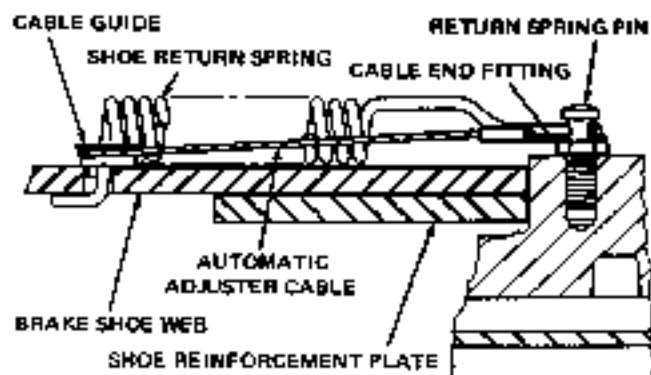

FIGURE J-15 - Adjuster Cable
NOTE: The secondary shoe is toward the rear of the vehicle. The shoe reinforcement plate, Figure J-15, is toward the backing plate.
6. Insert the cable guide, Figure J-15, into the hole in the web of the secondary shoe. Coat cable groove on guide with brake lubricant.
8. Insert short hook of shoe return spring in hole in cable guide and secondary shoe web as shown in Figure J-15. Hold end of spring down and hook opposite end of spring over return spring pin. The return spring will hold the cable guide in place. Make sure cable guide is down flat against shoe web surface.